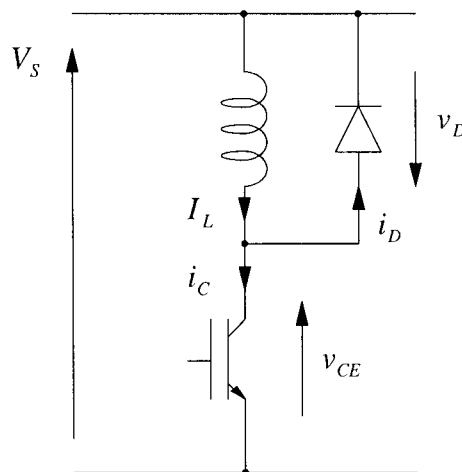

Figure 2.1 IGBT and inductive load
- (c) Figure 2.1 shows an IGBT used to switch an inductive load at a supply voltage of $V_S = 500$ V. A pn diode provides a current path for the load when the IGBT is switched off. The current in the inductor, I_L , can be considered constant at 100 A. At turn-on the IGBT achieves a rate of rise of current of 500 A/ μ s and its voltage fall time is 100 ns. The recovery current of the diode ceases abruptly when the junction recovers. For a forward current of 100 A, the diode recovery charge is 2.5 μ C.
- (d) Sketch a turn-on snubber suitable for use with the circuit in Figure 2.1. Explain how this snubber reduces the energy loss in the IGBT. [3]